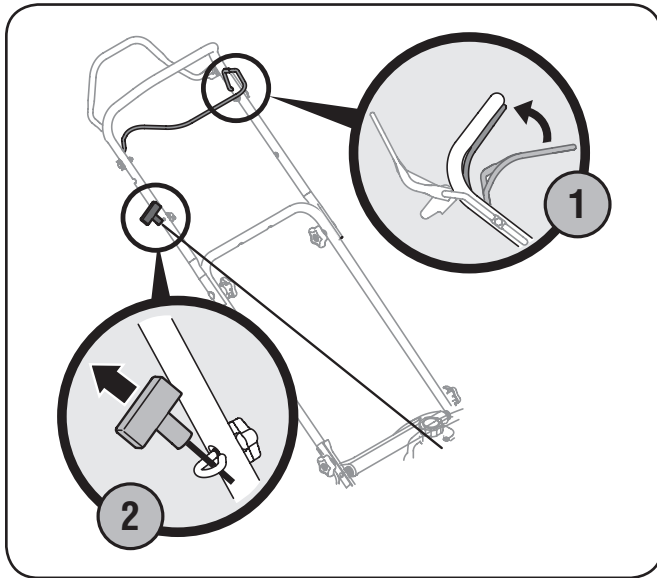

Figure 5-3
1. Standing behind the mower, depress the blade control handle and hold it against the upper handle. See Figure 5-3.